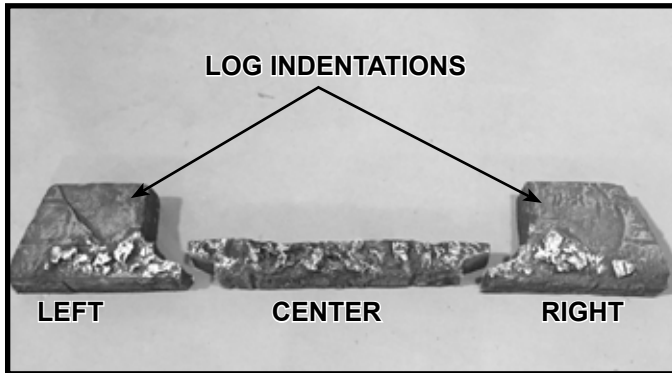
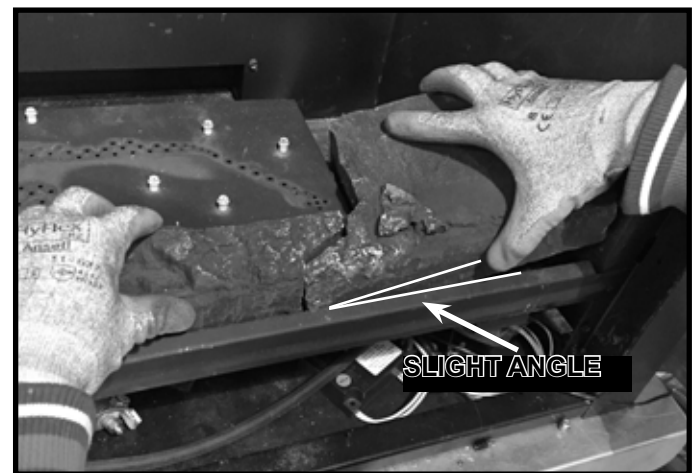

Figure 11.1 Hearth Components
Figure 11.4 Lift Center Hearth Component While Placing Right Hearth Component
The left, middle, and right hearth components are packaged in a separate box that is shipped inside the firebox. The three hearth components are shown in Figure 11.1.
3. Locate the right hearth component as shown in Figure 11.1. Install right hearth component by pointing its left tip at a slight angle as shown in Figure 11.4. When the right end of the middle hearth piece and the left tip of the right hearth component engage, gently place them in position. Push “down” on the indentation on the right hearth component to engage the screw tips at the bottom of the firebox.